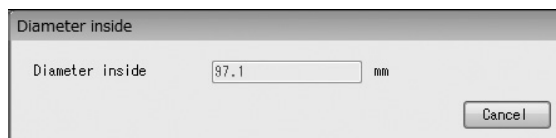

Fig. 3-29
- (1) Click "Setup (S)" from the menu, and then click on "Diameter inside".
- (2) The following window (Fig. 3-29) will be displayed. Here, it is possible to check the internal diameter of measuring tube.